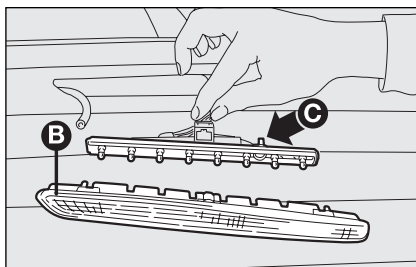

fig. 33
- remove the lens unit **B-fig. 33** and disconnect the electric connector;
- press the tabs **C-fig. 33** and remove the bulb holder;